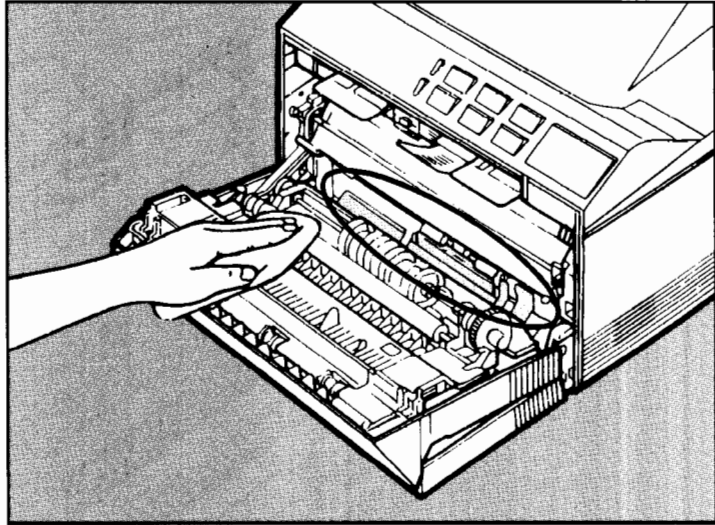

Figure 8-14. Cleaning Inside the Printer
2. Wipe away any visible toner, using a dry lint-free cloth. Do not remove the toner cartridge. Be careful not to bend any of the plastic paper guides circled in figure 8-14.